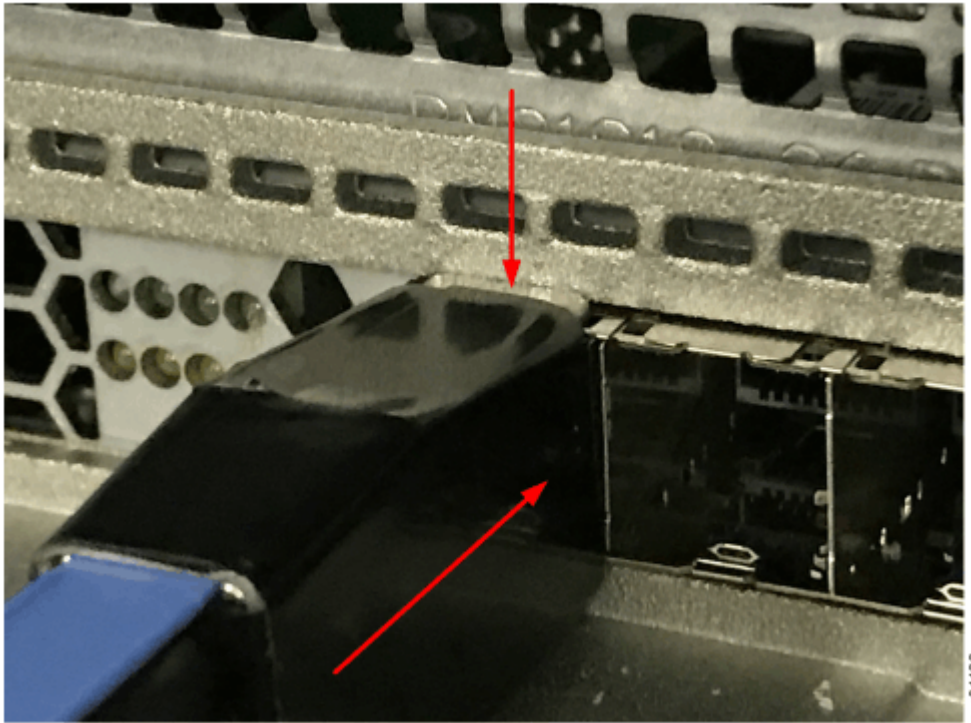

Figure 64. Pushing the SAS cable latch closed
- Insert the connector gently until it clicks into place. If you feel resistance, the connector is probably oriented the wrong way. Do not force it. See Figure 64 on page 98.